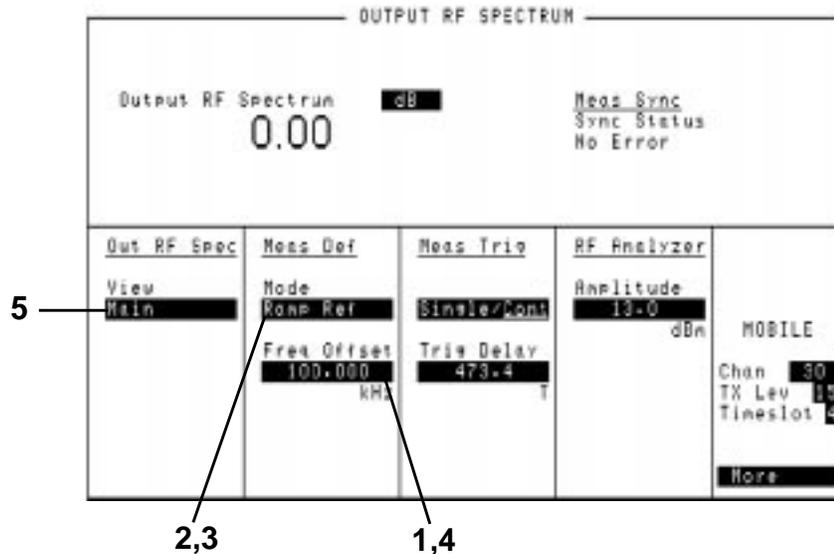

Figure 2-11 Output RF Spectrum Measurements
- Ensure the **Freq Offset** is set to zero (1), see Figure 2-11 on page 2-21.
- Select **Ramp Ref** or **Mod Ref** (2) (depending on whether you want to make a ramping measurement or a modulation measurement).